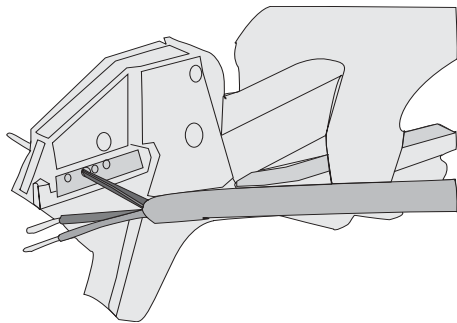

Fig 9.3 Assembling inlet
3. Insert the inlet insert (4) with guide lug into the keyway of the inlet sleeve (2) [Fig. 9.3].